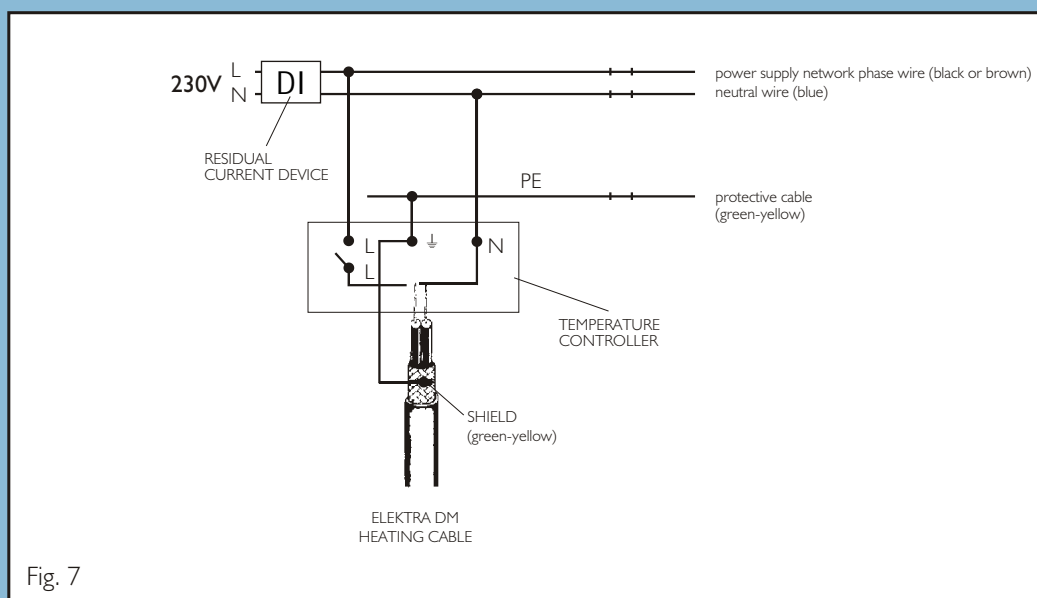

Fig. 7
Absolute safety of ELEKTRA DM heating set is assured by a copper shield covering the entire length of the heating cable and the cold tail cable. The shield must be connected to a protective cable (PE) as shown on Figure 7. A $D \leq 30$ mA residual current device protecting against electric shock must be installed in heating installations. This residual current device can be a common device for multiple circuits. When ELEKTRA DM heating cables are installed in rooms, where there is no residual current device such a device must be installed for the heating cables.